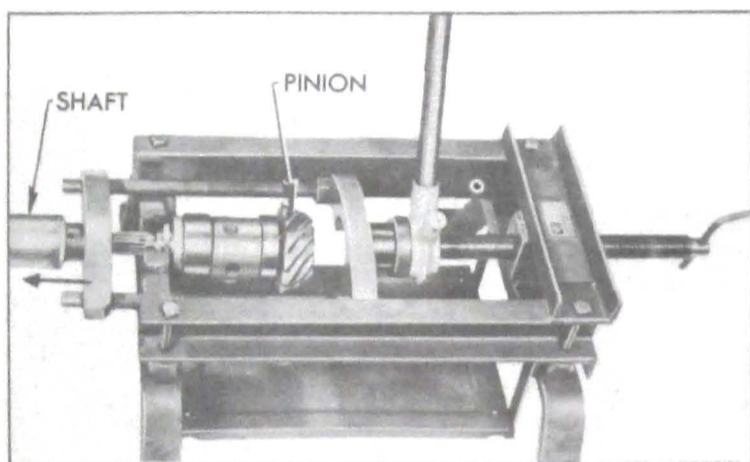

Figure 6-8—Removing Pinion from Shaft
6. Mark pinion and propeller shaft so that parts can be reassembled in the same relative position. File or cut off one end of propeller shaft coupling pin and drive out the pin, then pull propeller shaft from pinion using Press J 1292-C, with proper adapters. See figure 6-8.